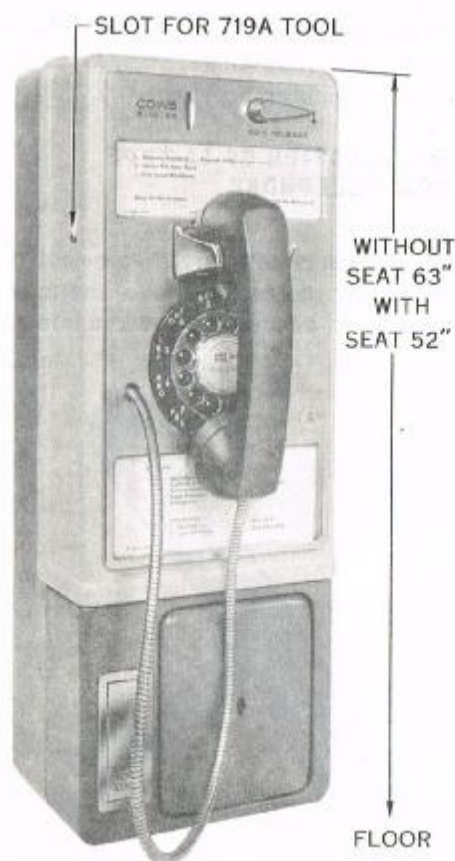
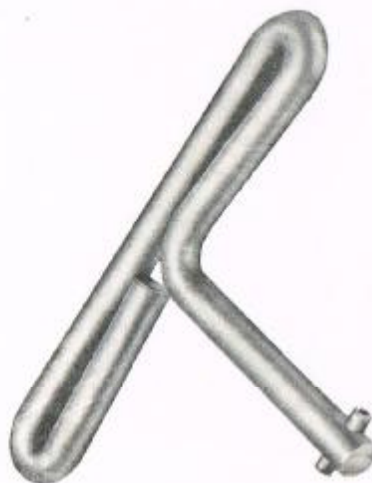
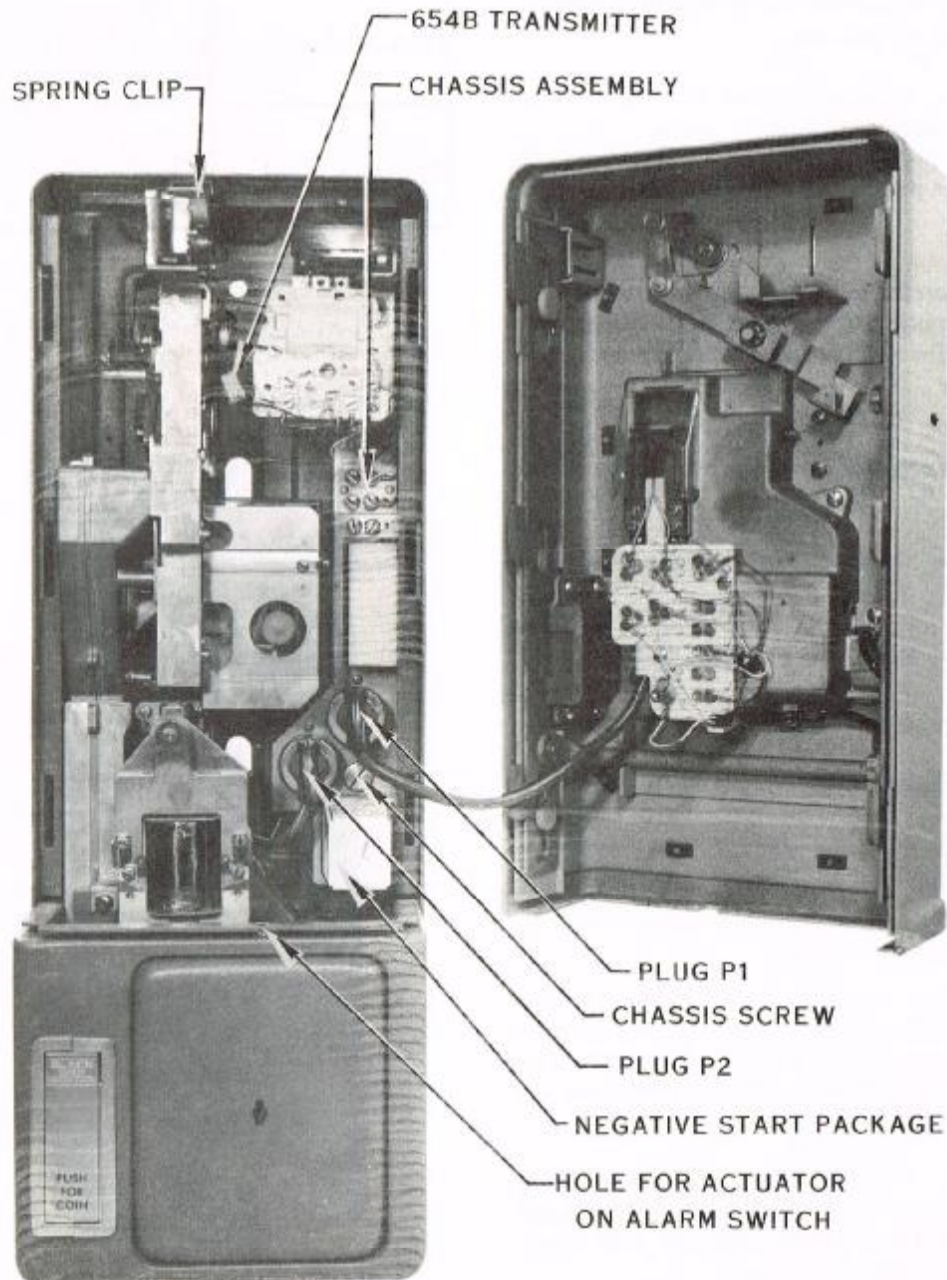

Fig. 1 — 1A1 Coin Telephone
Fig. 3 - 719A Tool
Fig. 4 - 1A-Type Coin Telephone, Internal View
4.03 Fig. 1 shows suggested heights for mounting 1A-type coin telephones. These heights may vary with local conditions or customer requirements.
- (2) Insert the 719A tool (Fig. 3) into the locking mechanism on the left side of cover (Fig. 1).
- (3) Turn tool approximately 1/8 turn, releasing locking mechanism so that cover can be removed.
- (4) Pull plug 1 (Fig. 4) straight out as cover is lifted off. Remove carefully.
- (1) Remove plug 2 (Fig. 4).
- (2) Disconnect 654B transmitter (Fig. 4).
- (3) Release spring clip (Fig. 4).
- (4) Tilt coin chute totalizer assembly forward, then lift up and out.
- (5) Remove nylon tape and wooden packing form from coin chute.
- (6) Remove paper insert to free totalizer coin arms.
5.04 Remove chassis assembly (Fig. 4) as follows:
- (1) Remove black and yellow leads from coin relay.
- (2) Loosen chassis screw (Fig. 4).
- (3) Pull chassis out at bottom.
- (4) Slide chassis assembly down and lift out.
When removing chassis assembly, be careful not to damage negative start package (Fig. 4.)